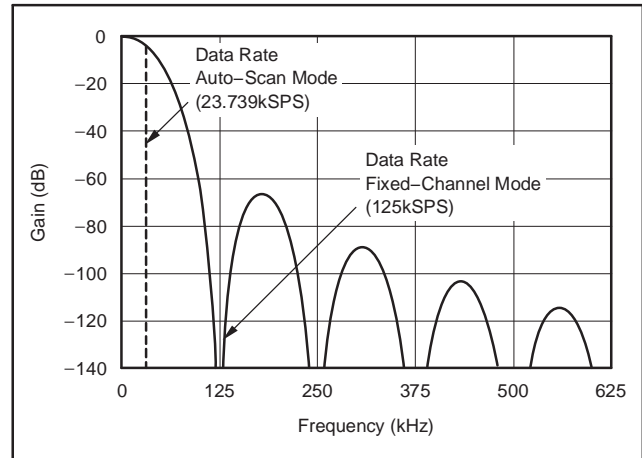
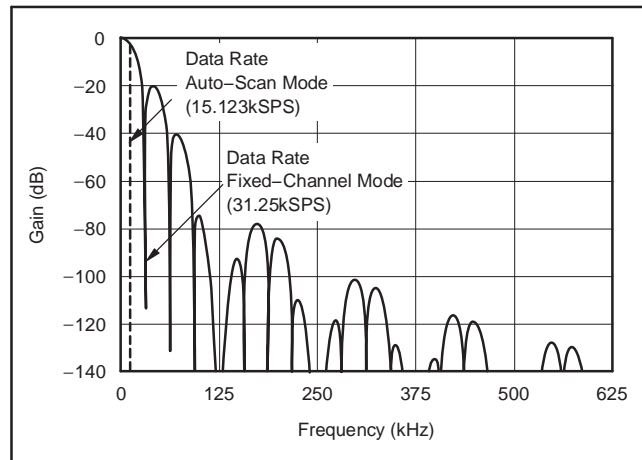

Figure 43. Frequency Response, DRATE[1:0] = 11
Figure 44. Frequency Response, DRATE[1:0] = 10
The low-pass filter has notches (or *zeros*) at the data output rate and multiples thereof. The sinc^5 part of the filter produces wide notches at $f_{CLK}/128$ and multiples thereof. At these frequencies, the filter has zero gain. Figure 43 shows the response with no post averaging. Note that in Auto-Scan mode, the data rate is reduced while retaining the same frequency response as in Fixed-Channel mode.
Figure 44 shows the response with averaging set to 4 (DRATE[1:0] = 10). 4-reading, post-averaging produces three equally-spaced notches between each main notch of the sinc^5 filter. The frequency response of DRATE[1:0] = 01 and 00 follows a similar pattern, but with 15 and 63 equally-spaced notches between the main sinc^5 notches, respectively.
(1) f_{CLK} = 16 MHz, Chop = 0, and Delay = 0.
(2) Num_Ave is the number of averages performed by the digital filter second stage.
(3) In Auto-Scan mode, the data rate listed is for a single channel; the effective data rate for multiple channels (on a per-channel basis) is the value shown in Figure 43 and Figure 44 divided by the number of active channels in a scan loop.
Referring to Figure 43 and Figure 44, frequencies present on the analog input above the Nyquist rate (sample rate/2) are first attenuated by the digital filter and then alias into the passband.